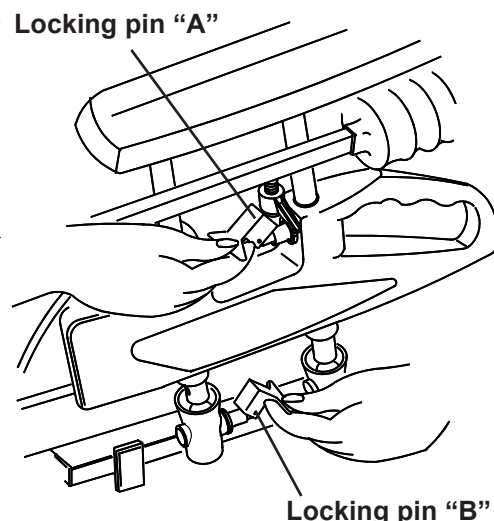

Fig. 9
To fit the armrest/skirt guard assembly, ensure that locking pin (A) (Fig. 9) is in the 'unlocked' position shown. Lower the armrest into the support cups and press down to ensure a firm location. Release the locking pin lever to lock position. To adjust the height of the armrest pull back the lever of locking pin (B) and hold. Lift or lower armrest to the required position and release pin to lock position, check armrest has seated properly.